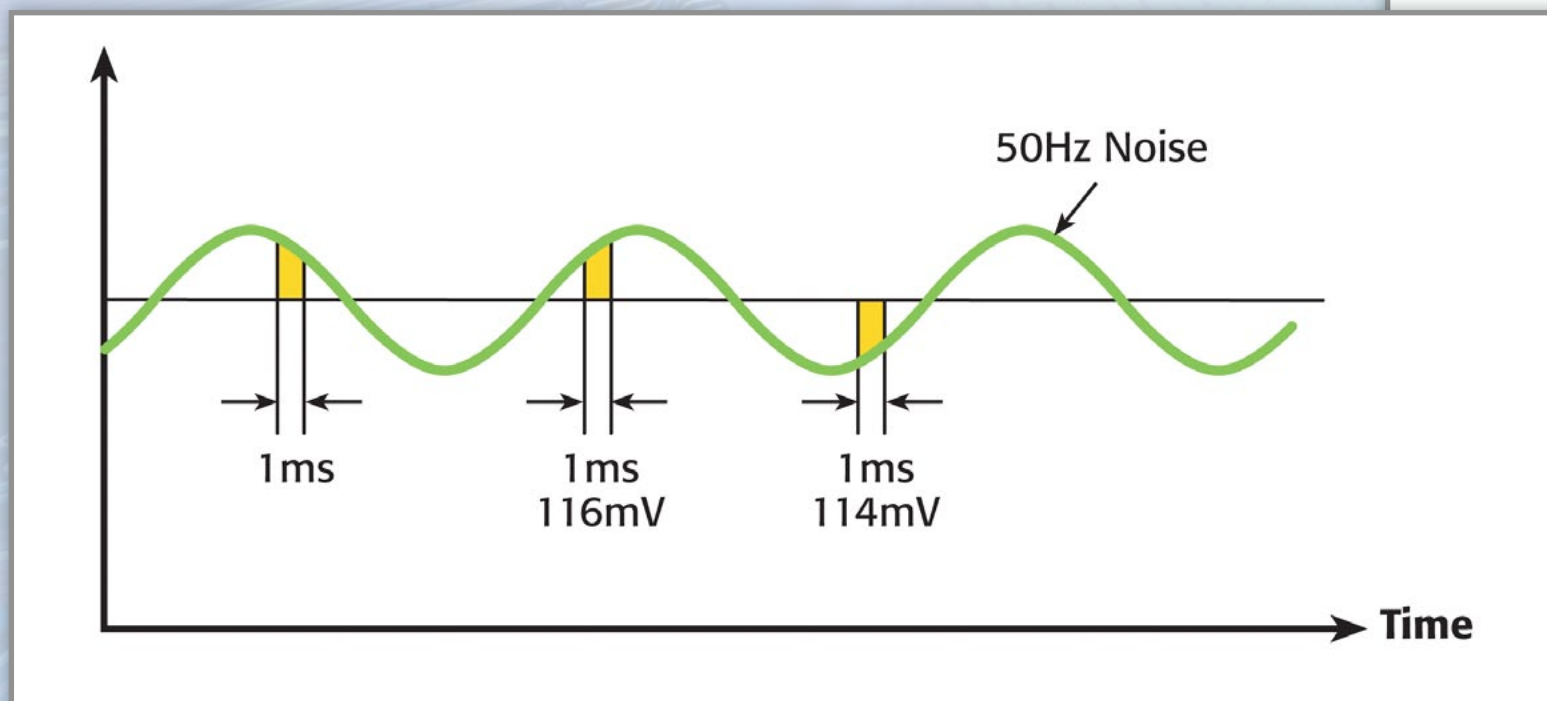

Figure 5
- External interference.** External interference introduces both AC and DC errors into signal measurements. The most common form of external noise “pick-up” is 50Hz or 60Hz line pick-up, depending on where in the world the measurements are being made. Picking up millivolts of noise is not uncommon, especially when measurements are made near fluorescent lights. The signal components of noise superimposed on a DC signal being measured may result in highly inaccurate and fluctuating measurements. As shown in **Figure 5**, the measured value will very much depend on where the measurement is carried out in relation to the sine wave. Many modern instruments allow users to set the integration period in relation to the number of power line cycles. In other words, a setting of 1 NPLC will result in the measurement being integrated for 20 milliseconds (if 50Hz) and 16.67 milliseconds (if 60Hz), which will eliminate any mains generated noise. The performance improvements this feature make possible are often dramatic.